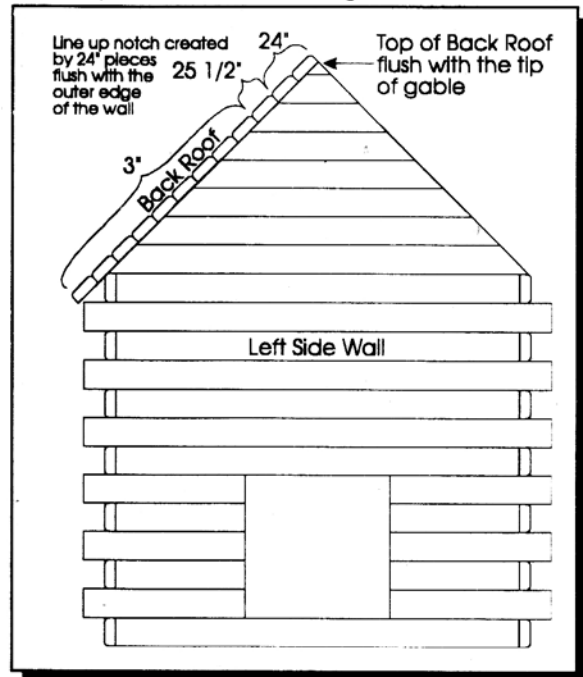

Figure 20- Back Roof To Walls
a. Glue Back Roof to the back edges of the side gables so that the top edge of the Back Roof is flush with the peak of the side gables. Align the notch created by the 24" pieces with the outside of the wall. This is where the chimney will attach. See Figure 20.